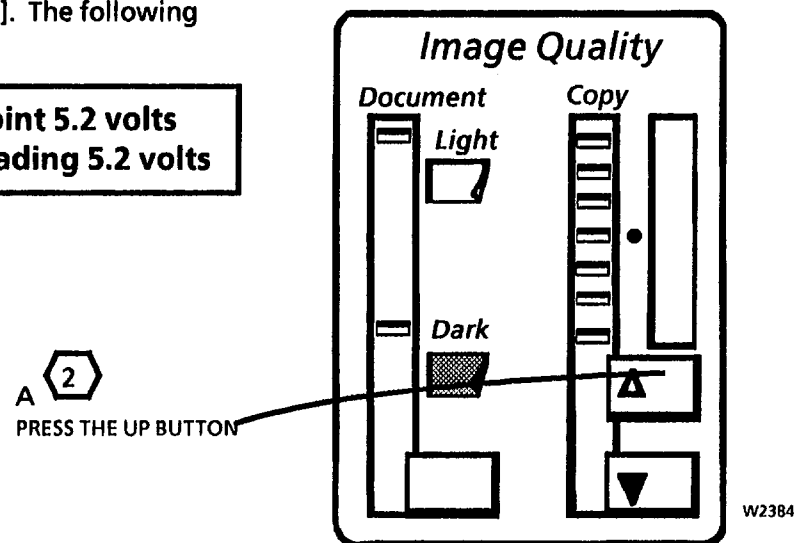

Figure 1. Decrease the Image Density
STEP 3 B: Each time the Copy up arrow button is pressed, the next higher LED will be lit, indicating a higher Control Point setting. Do not move more than (2) increments at one time. This may result in a fault.
3. (Figure 1): Decrease the image density.